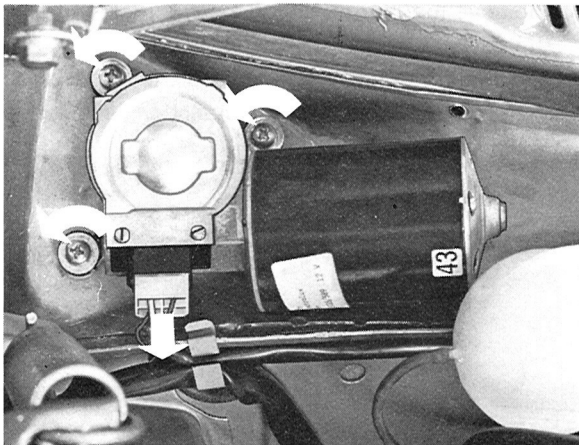

Fig. 3-139. Removing windshield wiper motor
3. Remove the three attaching screws (Fig. 3-139). Lift out the wiper motor.
1. Place the wiper motor in position and install the attaching screws, see Fig. 3-139.